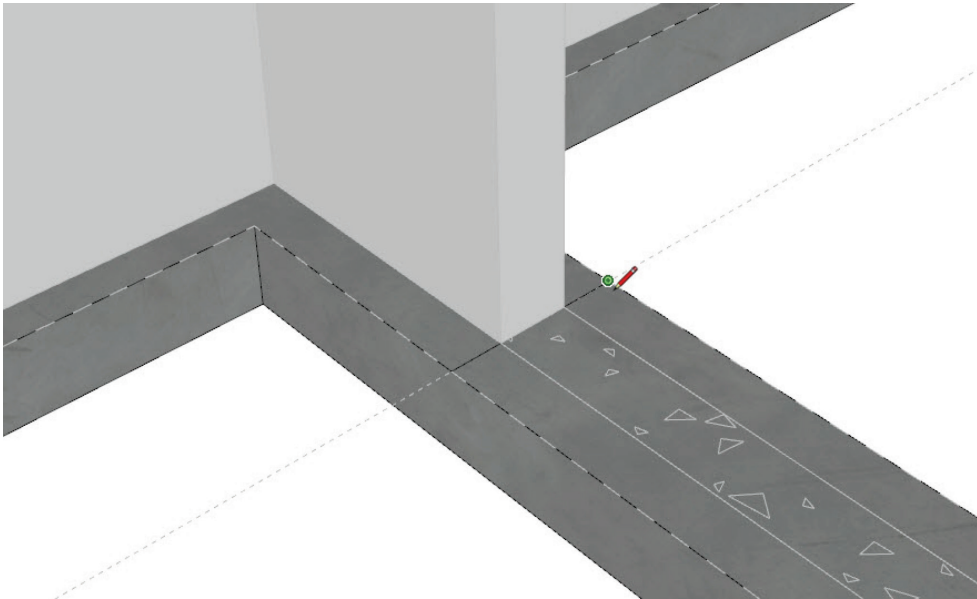

Figure 10.50 Stepped Footing 1.
Now that the foundation walls in this area are complete, I need to adjust the footings to fit the stem walls by creating bulkheads at each intersection (3). I am going to make these bulkheads (vertical transition between two footings at different elevations) 16" deep. To do this, I will first edit the footing group and draw lines (L) across the top of the footing, following the guidelines that I already have for the three-foot offset. I continue for all three intersections, as shown in Figure 10.50.